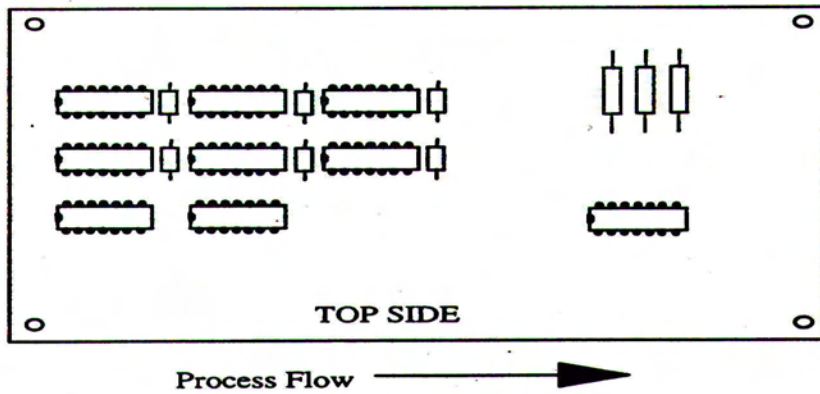

Figure 3.5.1: One Axis Layout Through-Hole
3.5.1 Top Side Component Orientation – Figure 3.5.1 shows the proper orientation for dual in line top side components.